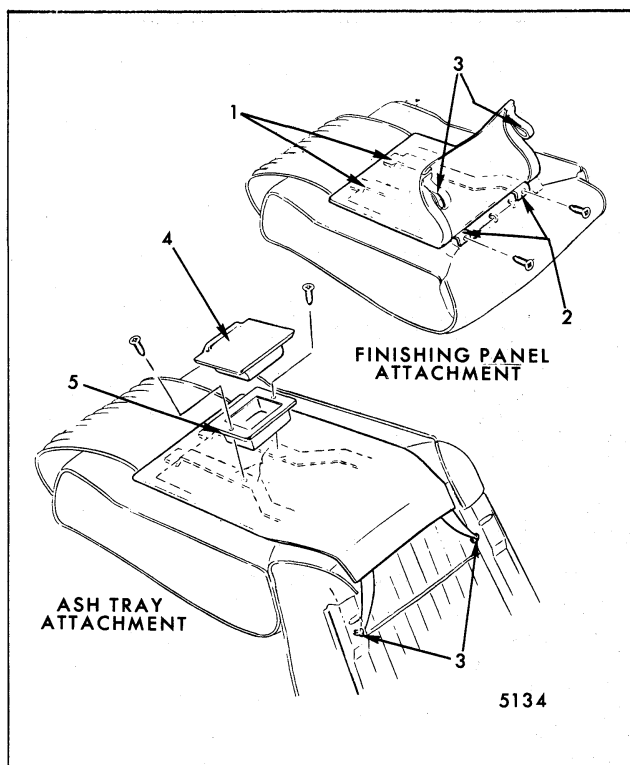

Fig. 9-47-Salon Bucket Seat Back Ash Tray and Finishing Panel
Salon Bucket Seat Back Ash Tray and Finishing Panel - Removal and Installation - Refer to Figure 9-47
2. Remove ash tray and finishing panel assembly as previously described (see Fig. 9-47).